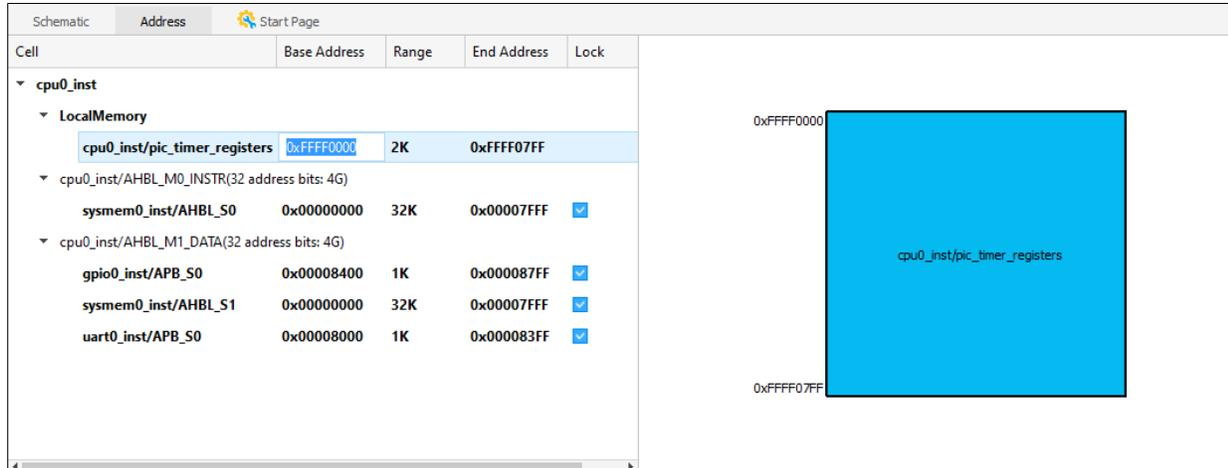

Figure 2.72. Edit Base Address
3. (Optional) Double-click the base address in Address view (Figure 2.72). Type the new value and press **Enter**.